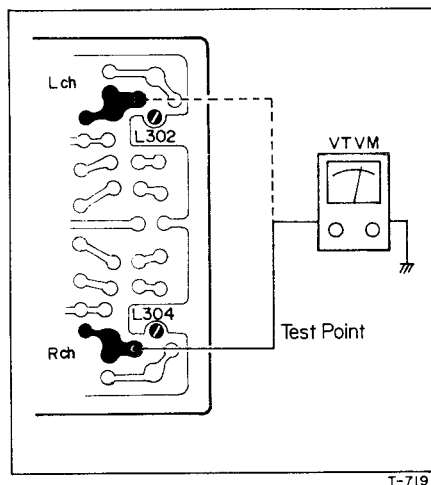

Fig. 8-8 Bias Trap Test Point
2. Connect a VTVM or oscilloscope from ground to the junction of L-302 and C-314 (L-ch) and from ground to the junction of L-304 and C-329 (R-ch). See Fig. 8-8.